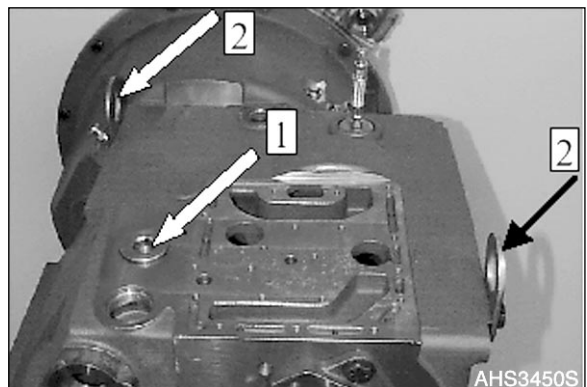

Figure 400
7. Equip screw plug (1, Figure 400) with new O-ring and install it. Install the two retaining plates (2, Figure 400).